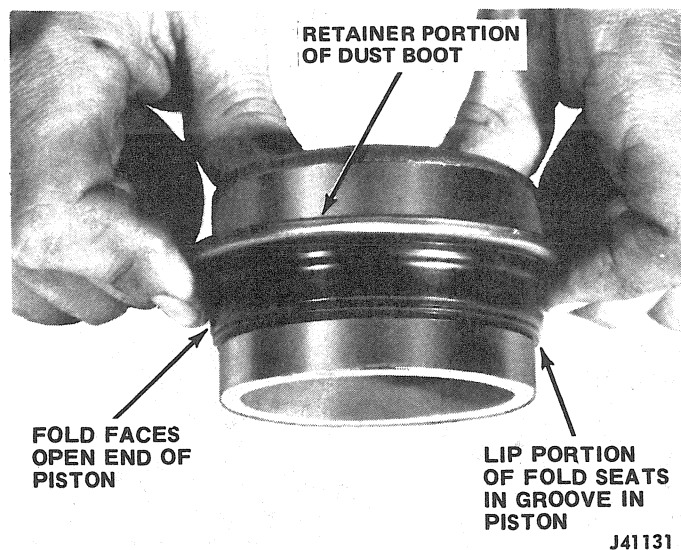

Fig. 2G-42 Installing Dust Boot on Piston
(1) Lubricate piston bore and replacement seal with brake fluid.
(2) Install seal in bore groove. Work seal into groove using fingers only.
(3) Lubricate piston with brake fluid.
(4) Install replacement dust boot on piston. Slide metal retainer portion of boot over open end of piston and pull boot rearward until rubber boot lip seats in piston groove (fig. 2G-42).
(5) Push metal retainer portion of boot forward until retainer is flush with rim at open end of piston and boot fold snaps into place (fig. 2G-43).
(6) Insert piston into bore and into piston seal. Do not unseat seal.
(7) Press piston to bottom of bore using hammer handle. Approximately 50 to 100 pounds (23 to 45 kg) of force is required to bottom piston in bore.